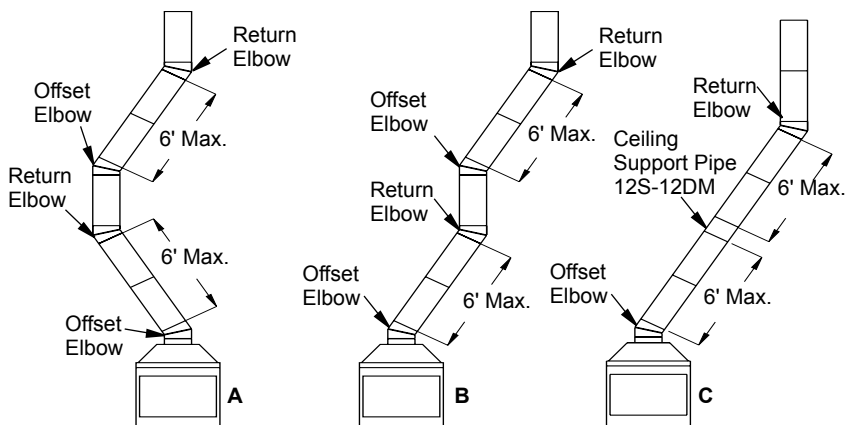

Figure 9 - Typical Offset Terminations
3. Maximum length of pipe between supports (return elbow or 12S-12DM) is 6' of angle run. Maximum of two 6' angle run sections per chimney system (see Figure 9, page 8).